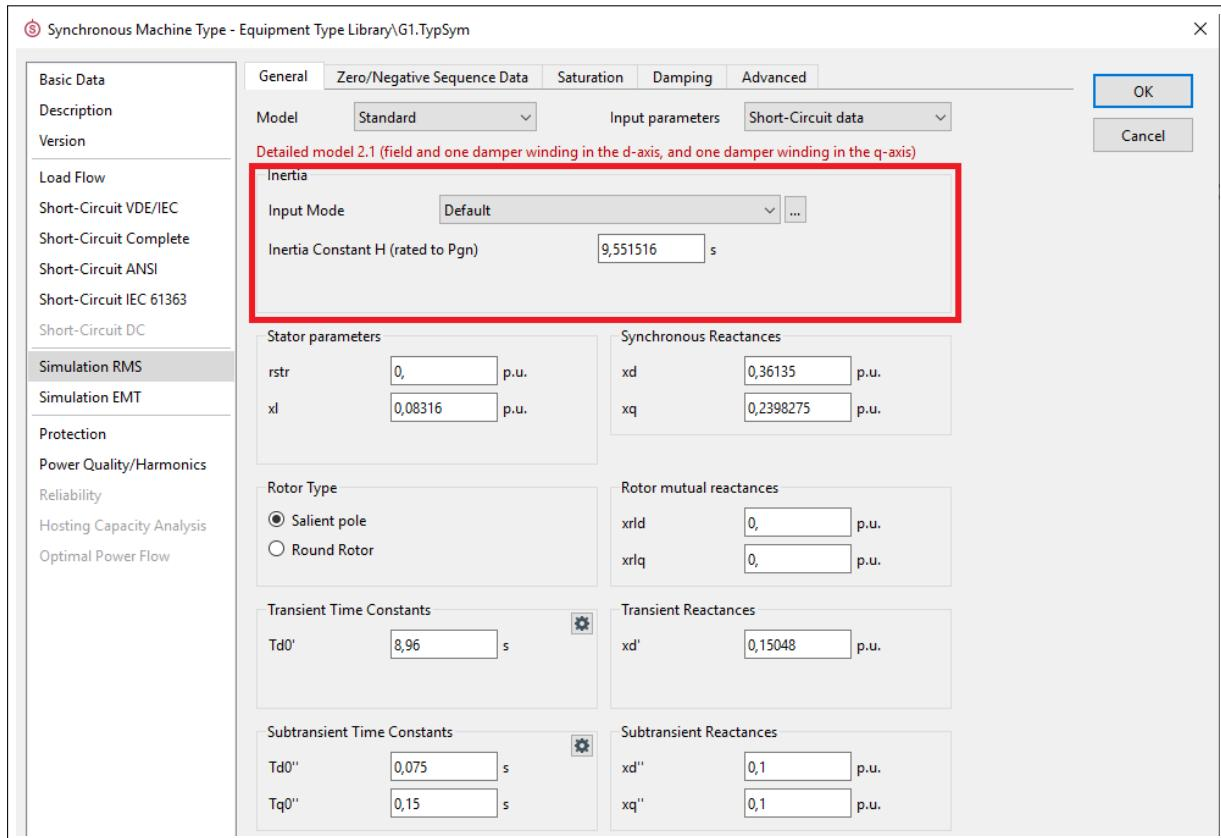

Figure 25.4.3: Inertia/Acceleration Time Constant Parameter of the Synchronous Machine Type (TypSym). *Simulation RMS* Page
**According to Inertias:** immediately following a disturbance, the missing/excess power is delivered from the kinetic energy stored in the rotating mass of the turbines. This leads to a deceleration/acceleration and thus to a decrease/increase in the system frequency. The contribution of each individual generator towards the total additional power required is proportional to its inertia. If the *Active Power Control* option *According to Inertias* is selected in *PowerFactory*'s load flow command, the power balance is established by all generators. Individual contributions to the balance are proportional to the inertia/acceleration time constant of each generator (defined on the *RMS-Simulation* page of the synchronous generator type's dialog and depicted in Figure 25.4.3). This relation can be mathematically described as follows: